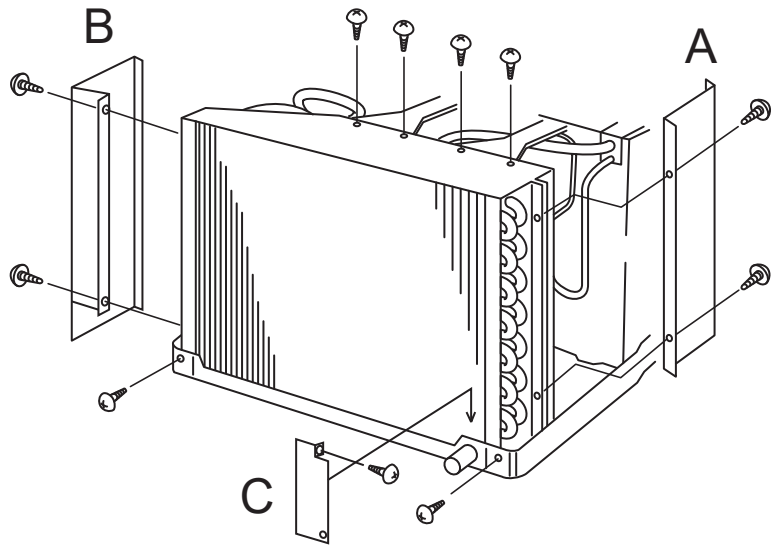

Fig. 12
- (1) Remove two splasher plates A and B on both side of condenser. (Fig. 12)
- (2) Remove splasher plate C at the back of condenser. (Fig. 12)
- (3) Remove other screws holding the condenser. (Fig. 12)
- (4) Grasp lower portion of the condenser with both hands and tilt it slightly and lift it carefully from the base pan so as not to distort the copper tube.